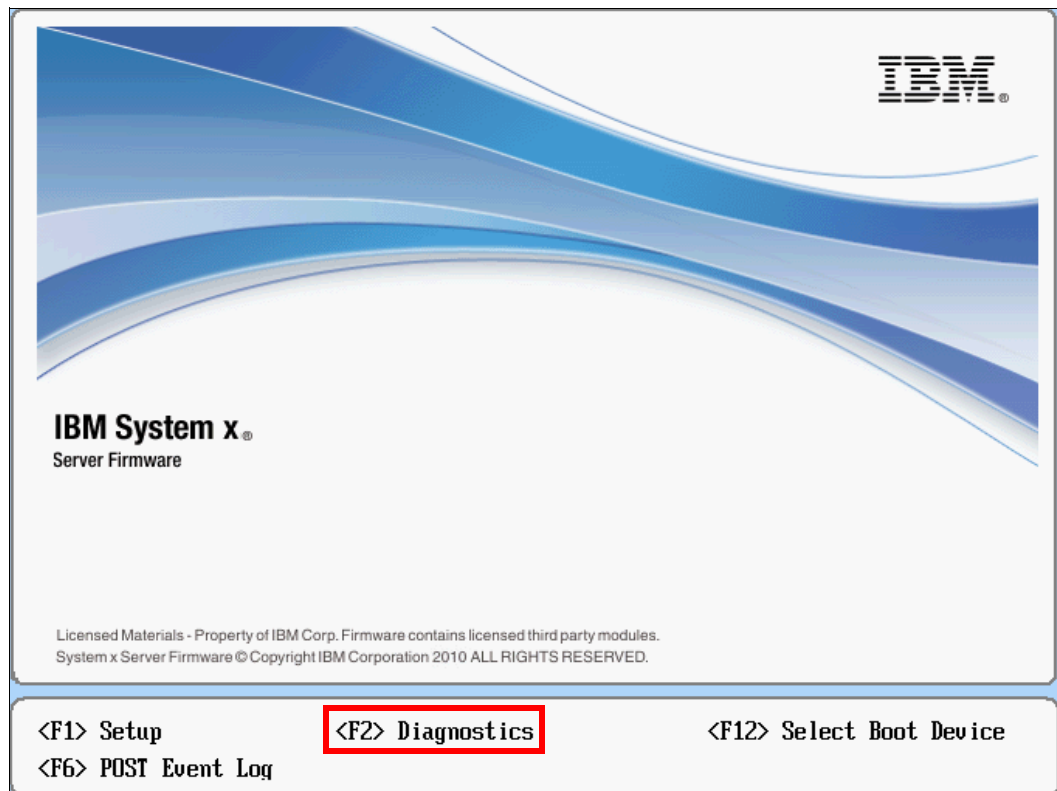

Figure 6-3 How to access diagnostics in POST
1. During POST, at the IBM System x splash panel, press F2-Diagnostics, as shown in Figure 6-3.